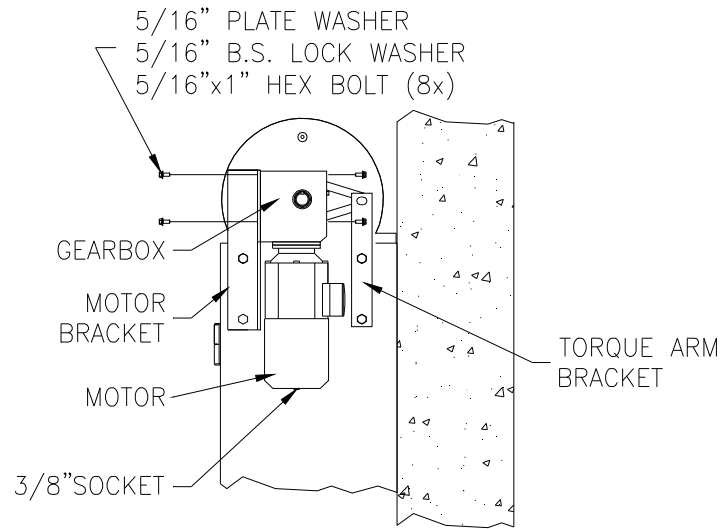

FIG. 7C
- **Slide Gearbox on shaft** (Figure 7c).